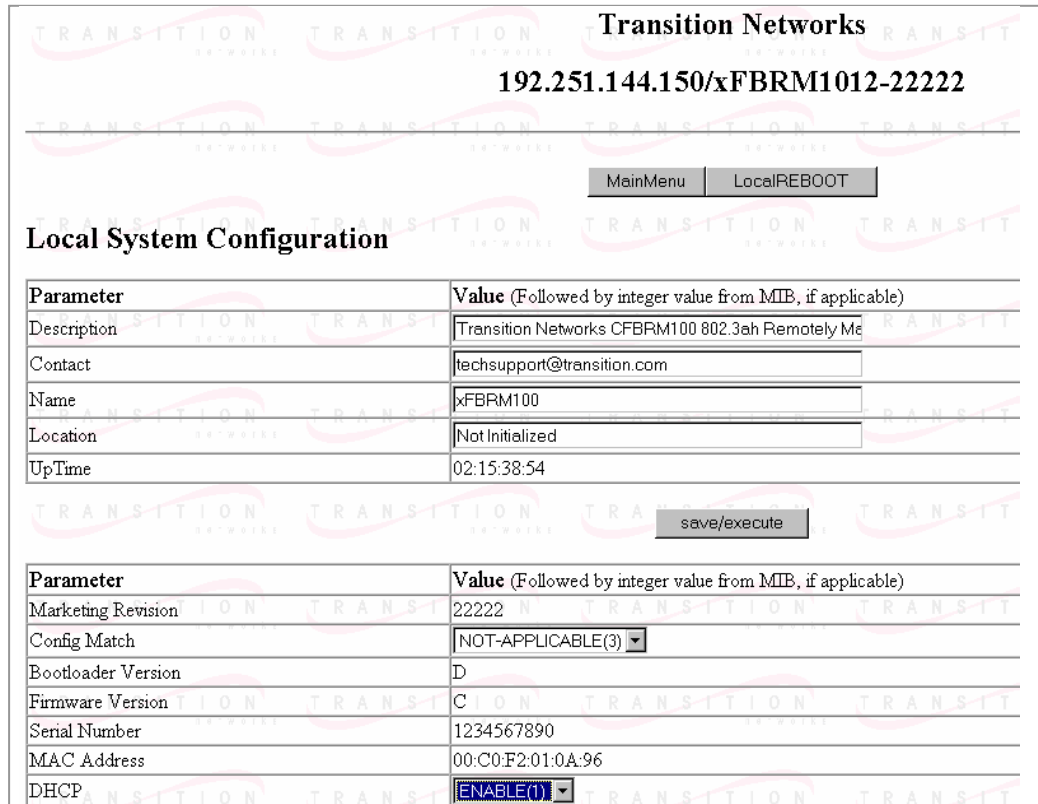

Figure 44: IP-based Local System Configuration Screen
2.	On the local switch configuration screen, enable DHCP as shown in Figure 44.